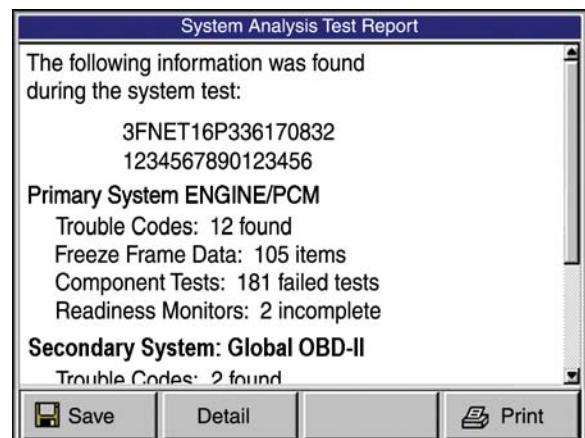

Figure 5.2: System Analysis Test Report Screen
- Press the **Detail** function key (Figure 5.2 on page 22) to display details for the test items.